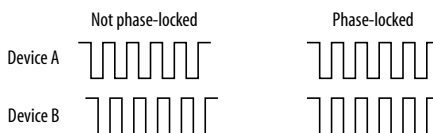

Figure 3-6: When transferring audio, two devices must have phase-locked audio clocks to prevent clicks, pops or other artifacts.
- Synchronizing the MOTU 828 with other digital audio devices so that their digital audio clocks are *phase-locked* (as shown in Figure 3-6)